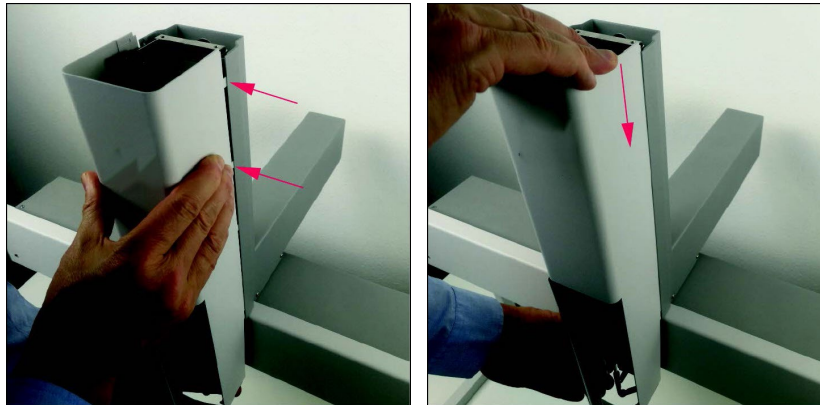

Figure 95: Front Tower Assembly 3
4. Guide the lower hooks first into the slots, followed by the upper clips. See Figure 95.